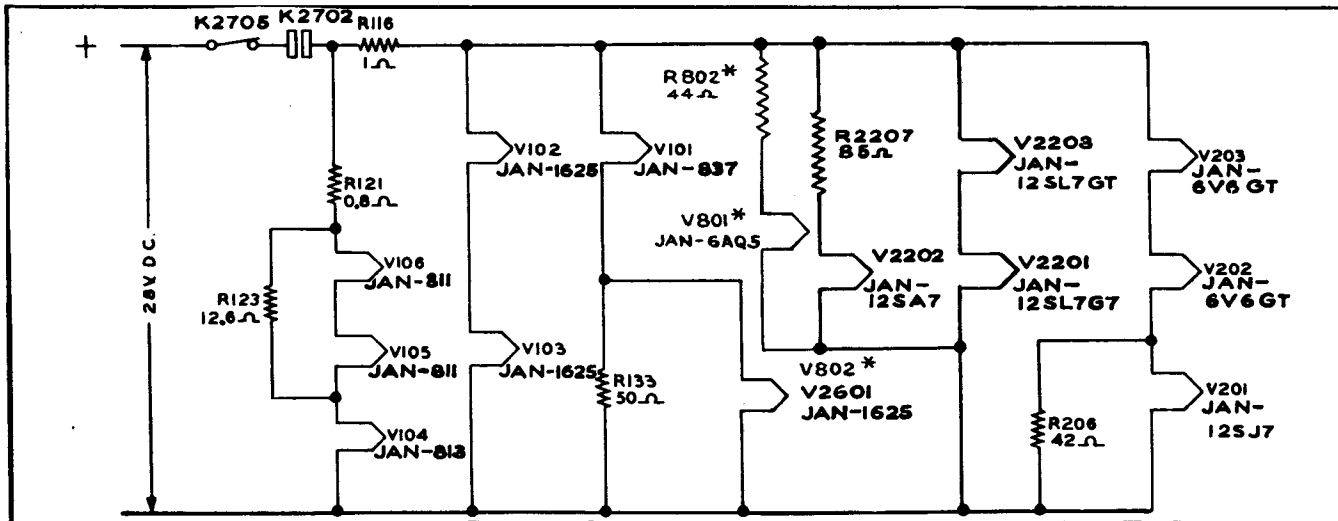
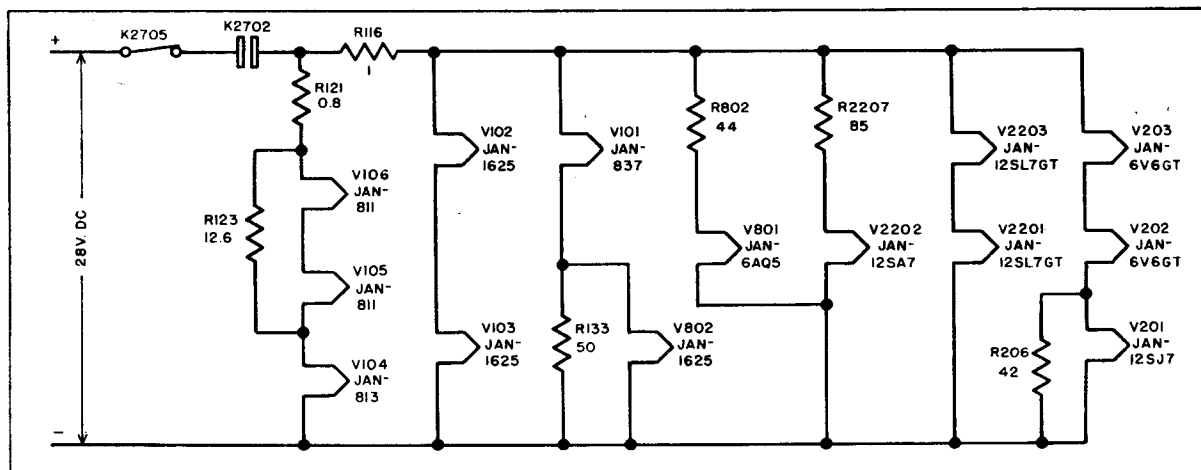

Figure 4-3. Filament Circuits AN/ART-13A and AN/ART-13B
Figure 4-3A. Filament Circuits — AN/ART-13B
(12) The power change relay, K2701, operates when the pressure is reduced to a pressure corresponding to altitudes between 20,000 and 25,000 feet above sea level by the operation of the pressure operated relay, K2704. If the transmitter is operating with VOICE emission, power change relay coil K2701A is energized by the circuit through the normally closed contacts of primary overload relay K2705, primary power contactor contacts K2702B, Autotune motor control relay contacts K101B, the contacts of Autotune limit switch section S111, the contacts of safety interlock switch S117, power change relay coil K2701A, the contacts of pressure operated relay K2704, the contacts of "voice" relay K104 and the closed circuit of MICROPHONE jack J102. If the transmitter is operating with CW emission and pressure operated relay K2704 has operated, the operating circuit for power change relay K2701 is through the normally closed contacts of primary overload relay K2705, primary power contactor contacts K2702B, Autotune motor control relay contacts K101B, the contacts of Autotune limit switch section S111, the contacts of safety interlock switch S117, power change relay coil K2701A, the contacts of pressure operated relay K2704 and CW relay contacts K103B. If the transmitter is operating with MCW emission, the energizing circuit for power change relay K2701 is through the normally closed contacts of primary overload relay K2705, primary power contactor contacts K2702B, Autotune motor control relay contacts K101B, the contacts of Autotune limit switch section S111, the contacts of safety interlock switch S117, power change relay coil K2701A, the contacts of pressure operated relay K2704, the contacts of EMISSION selector switch S110 or S602 and the contacts of LOCAL-REMOTE switch S107.
b. FILAMENT CIRCUITS.—The filament power circuits of the transmitter are a combination of series and parallel connections. The filaments are supplied with power from the 28 volt d-c source. Figure 4-3, covering Model AN/ART-13A and Figure 4-3A covering Model AN/ART-13B, show the filament circuits in simplified form. All filament power is controlled by primary power contactor contacts K2702. The primary overload relay, K2705, operates to break the fila-